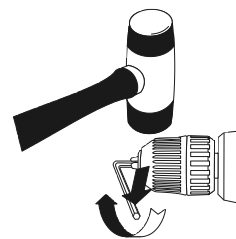

Fig. 10
2. Tap the hex key sharply with a mallet in a CLOCKWISE direction (Fig. 10). This will tighten the chuck on the spindle.